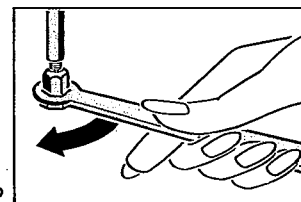

Fig. 2
1. Plug in the machine and make sure that the switch (B) is in the OFF position (press the top of the switch inward). The light should be off.
2. Unscrew the boiler cap (C) by turning it counter clockwise (↺).
3. Fill the carafe (I) to the desired level. The side of the carafe is marked 2 and 4 for sufficient water to make 2 or 4 espresso cups. NOTE: If you plan to steam milk for Cappuccino, now is the time to add sufficient water for the steaming process. For example if you plan two servings of Cappuccino fill the carafe with enough water for 3 cups. Two for the Espresso and one for steaming the milk. If you are making four servings add a 5th espresso cup for the steaming. Pour the water into the boiler (See Fig. 2)